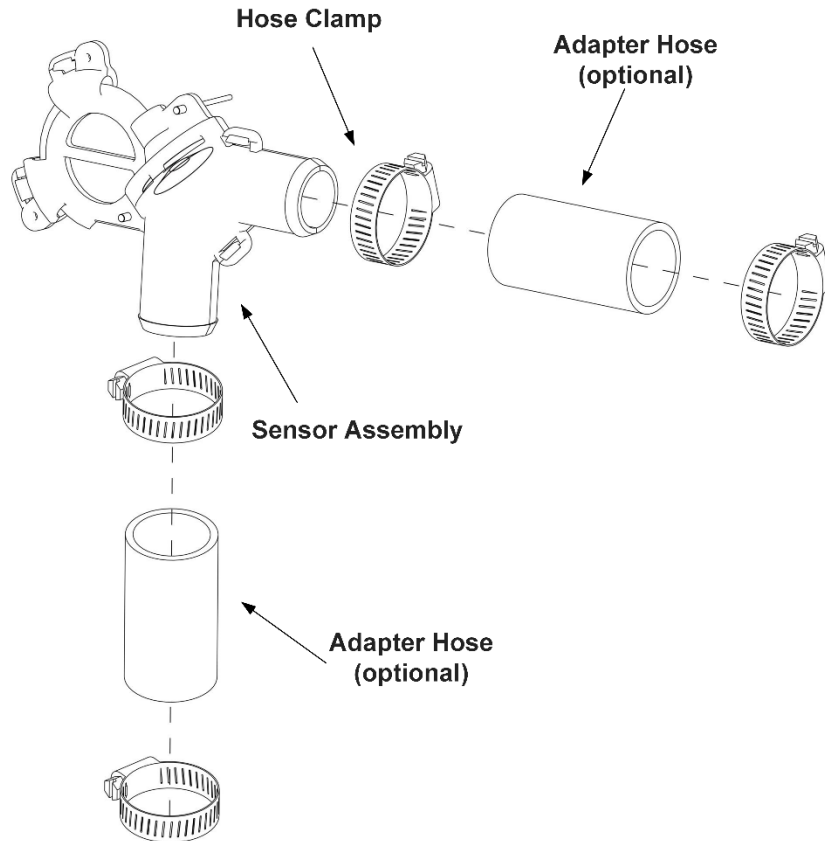

Figure 8: Installing 90-degree flow sensors on a manifold
1. If you are using adapters, slide them onto the flow sensor as shown in Figure 8. Secure using hose clamps.